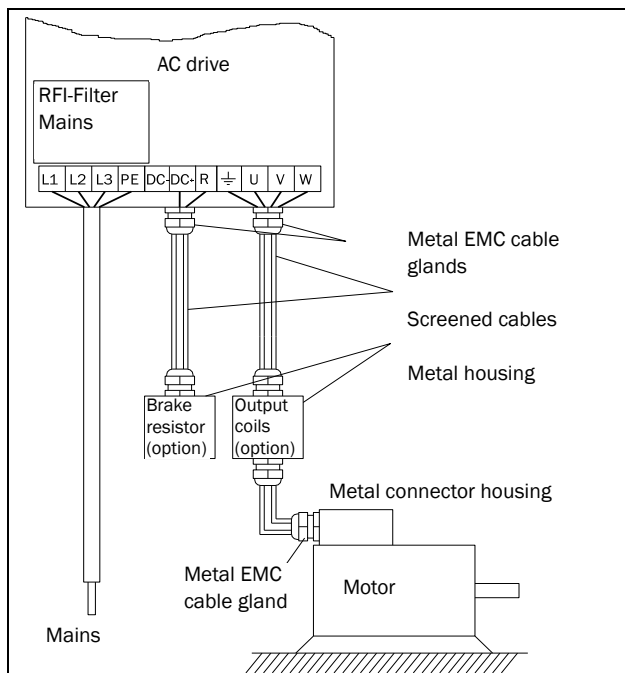

Fig. 52 Connection of mains and motor cables
1. Connect the mains cables as in Fig. 52. The AC drive has, as standard, a built-in RFI mains filter that complies with category C3 which suits the Second Environment standard.
2. Connect the motor cables as in Fig. 52. To comply with the EMC Directive you have to use screened cables and the motor cable screen has to be connected on both sides: to the housing of the motor and the housing of the AC drive.